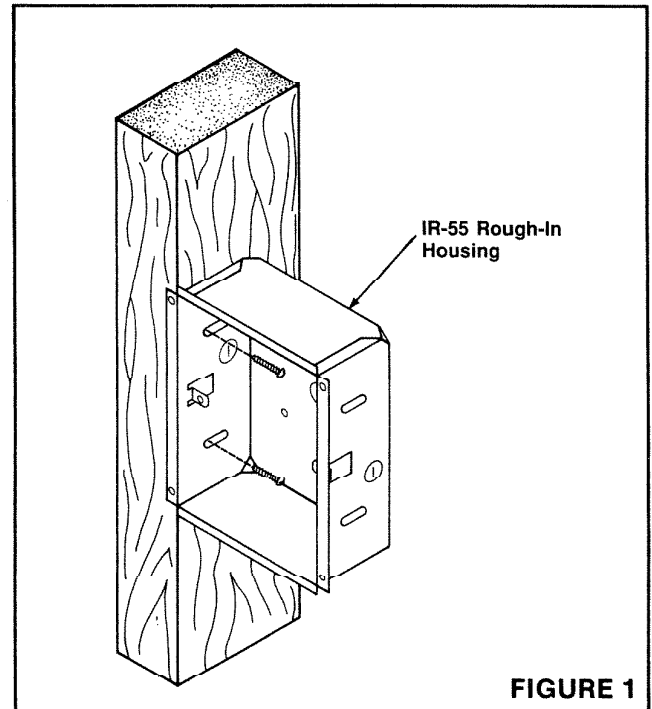

FIGURE 1
1. Position housing against wall stud as shown in Figure 1.
2. See Figure 1. Use wood screws to secure housing to wall stud.